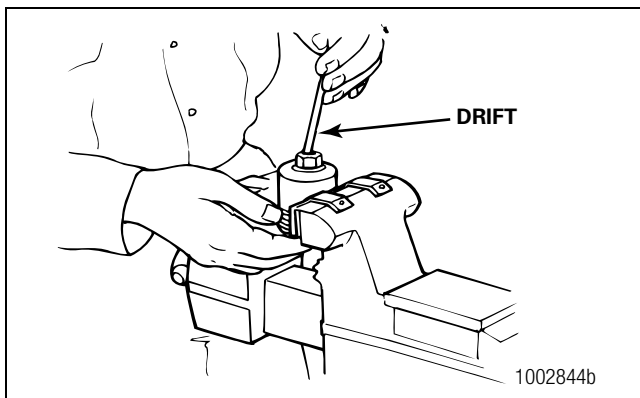

Figure 6.8
5. Place the shift cylinder and piston assembly in a vise that has brass covers over the jaws. Remove the piston and O-ring from inside the cylinder. Use a narrow drift through the hole in the top of the cylinder to push out the piston. It may be necessary to use a mallet to tap out the piston. Figure 6.8.